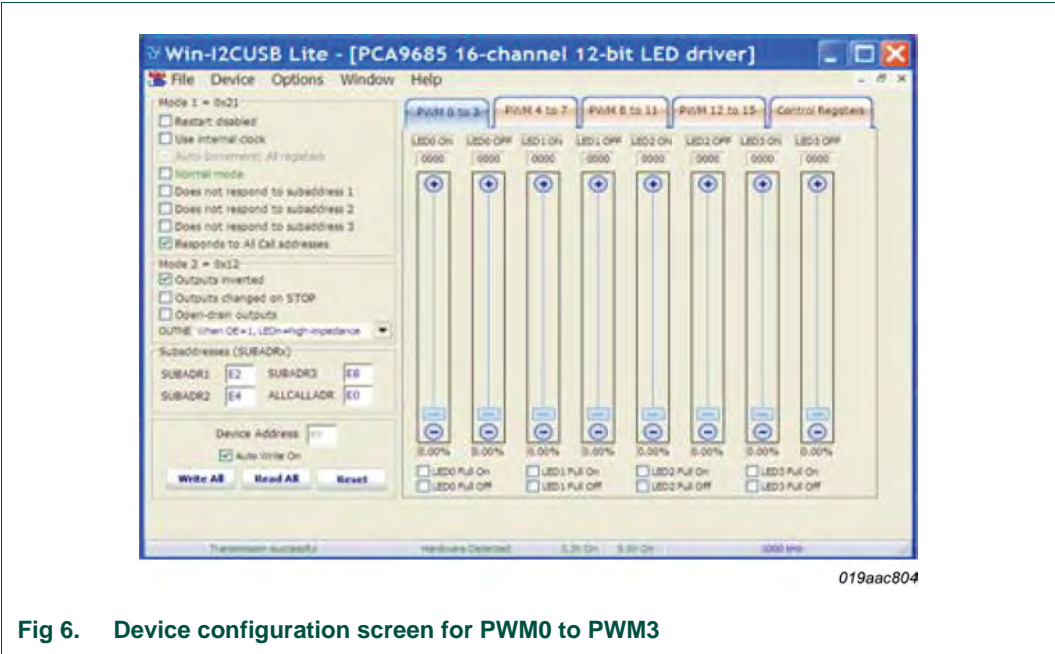

Fig 6. Device configuration screen for PWM0 to PWM3
3. For LED output that directly connects to LED as the demo board design, the INVRT bit in MODE2 register must be set to 1 by checking the 'Output not inverted' to 'Output inverted' and the OUTDRV bit in MODE2 register must be set to 0 by checking the 'Totem pole outputs' to 'Open-drain outputs' to make sure all LEDs are completed OFF state as shown in Figure 6.
5. In Figure 6, uncheck the 'LEDn Full Off' box (lower bottom), adjust both 'LEDn ON' and 'LEDn OFF' bar for dimming/brightness effect, also move LED1 ON/OFF to control red, LED2 ON/OFF to control green, LED3 ON/OFF to control blue for color mixing.